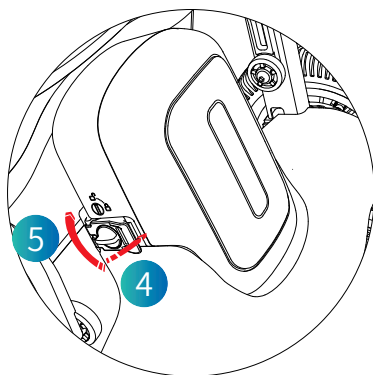

Figure 4.6.2.3
(3) In Step 3, manually close the battery left buckle and rotate the left knob of the battery box with the left knob to the locked position. (As shown on Figure 4.6.2.3)